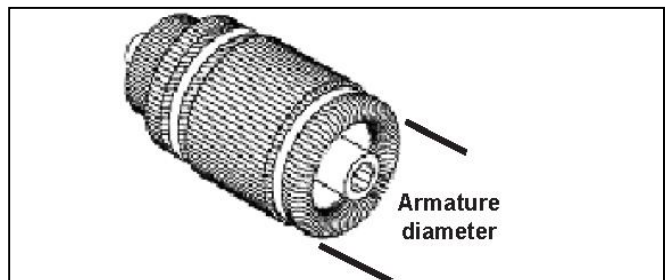

Figure 9-8
1. Measure the diameter of the armature (Figure 9-8).